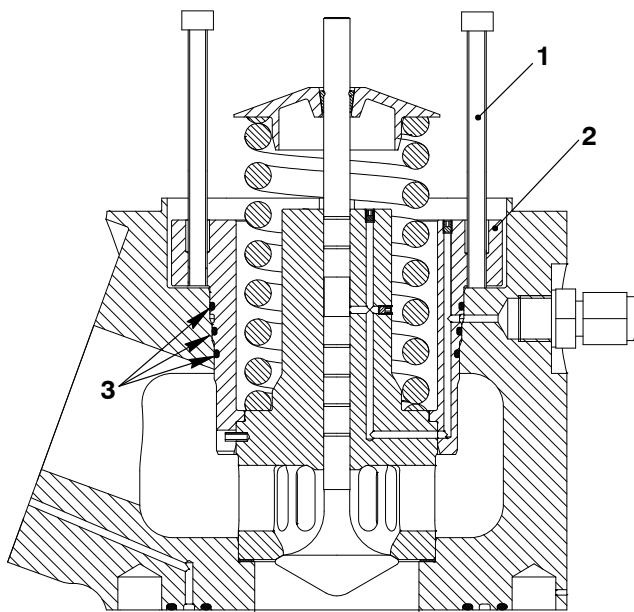

Fig. 6
- 8) Put the two M10 screws 94214L (1, Fig. 6) in position in the M10 threads.
- 9) Turn equally the two M10 94214L screws to remove the valve assembly (2).